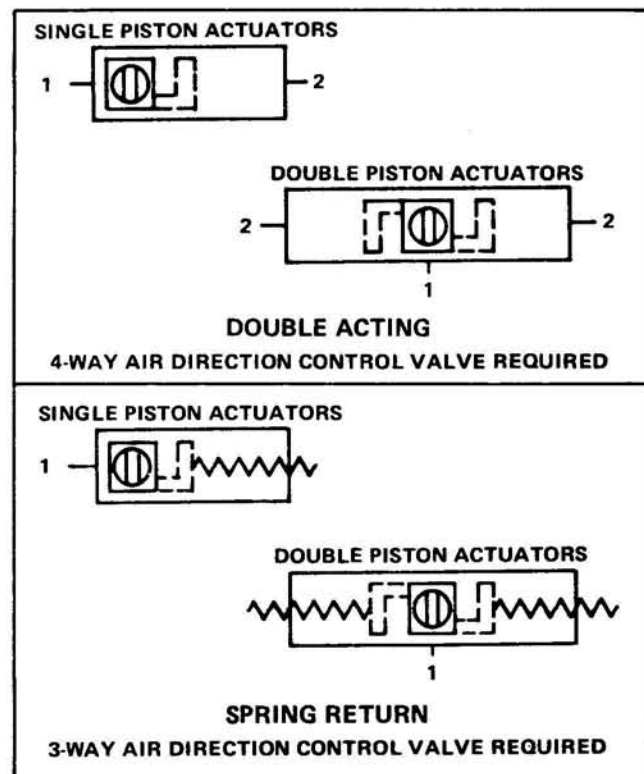

Figure 1.
e. Pipe air to the actuator port(s) as shown in Figure 1.